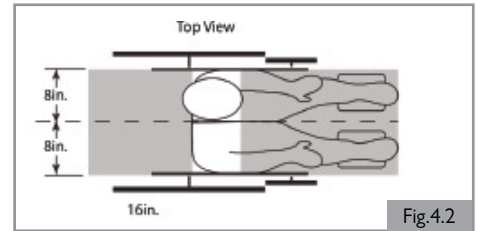

Fig.4.2
3. The recommended clear zones for wheelchair seated occupants restrained by both pelvic and upper-torso belt(s) and only by a pelvic belt are shown in the diagrams (Fig. 4.2 and 4.3) and described below. Frontal Clear Zones (FCZ) need to be larger when upper torso belt(s) are not used. The Rear Clear Zone of 16-in (40.5 cm) is measured from the rearmost point on an occupant's head. The Front Clear Zone is measured from the front most point of an occupant's head and is 26-in (66 cm) with pelvic and upper-torso belt(s) and 37-in (94 cm) with only a pelvic belt. The frontal clear zone may not be achievable for wheelchair-seated drivers.